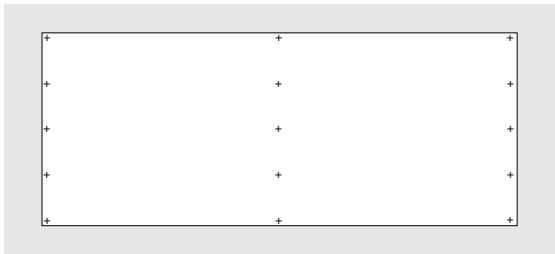

Figure 2: Fastening Pattern
- 3. Offset board and fasten through first layer, penetrating 1” into framing members (i.e., girts or purlins) with corrosion-resistant fasteners and poly washers. Each board should span at least three framing members. The maximum span is 5’ for a 1” thick board (Contact DuPont Customer Information Group for additional thickness spannability). Fasteners should be spaced 12” on center in three rows of five fasteners per 48” board width (Figure 2).
Fasteners should be spaced 12” on center in three rows of five fasteners per 48” board width (Figure 2).
1. Offset insulation board a minimum of 6" in both directions and fasten through the first layer, penetrating 1" into framing members (i.e., girts or purlins) with corrosion-resistant fasteners and poly washers. Each board should span at least three framing members. The maximum span is 5' for a 1" thick board (Contact DuPont Customer Information Group for additional thickness spannability). Fasteners should be spaced 12" on center in three rows of five fasteners per 48" board width (Figure 2).